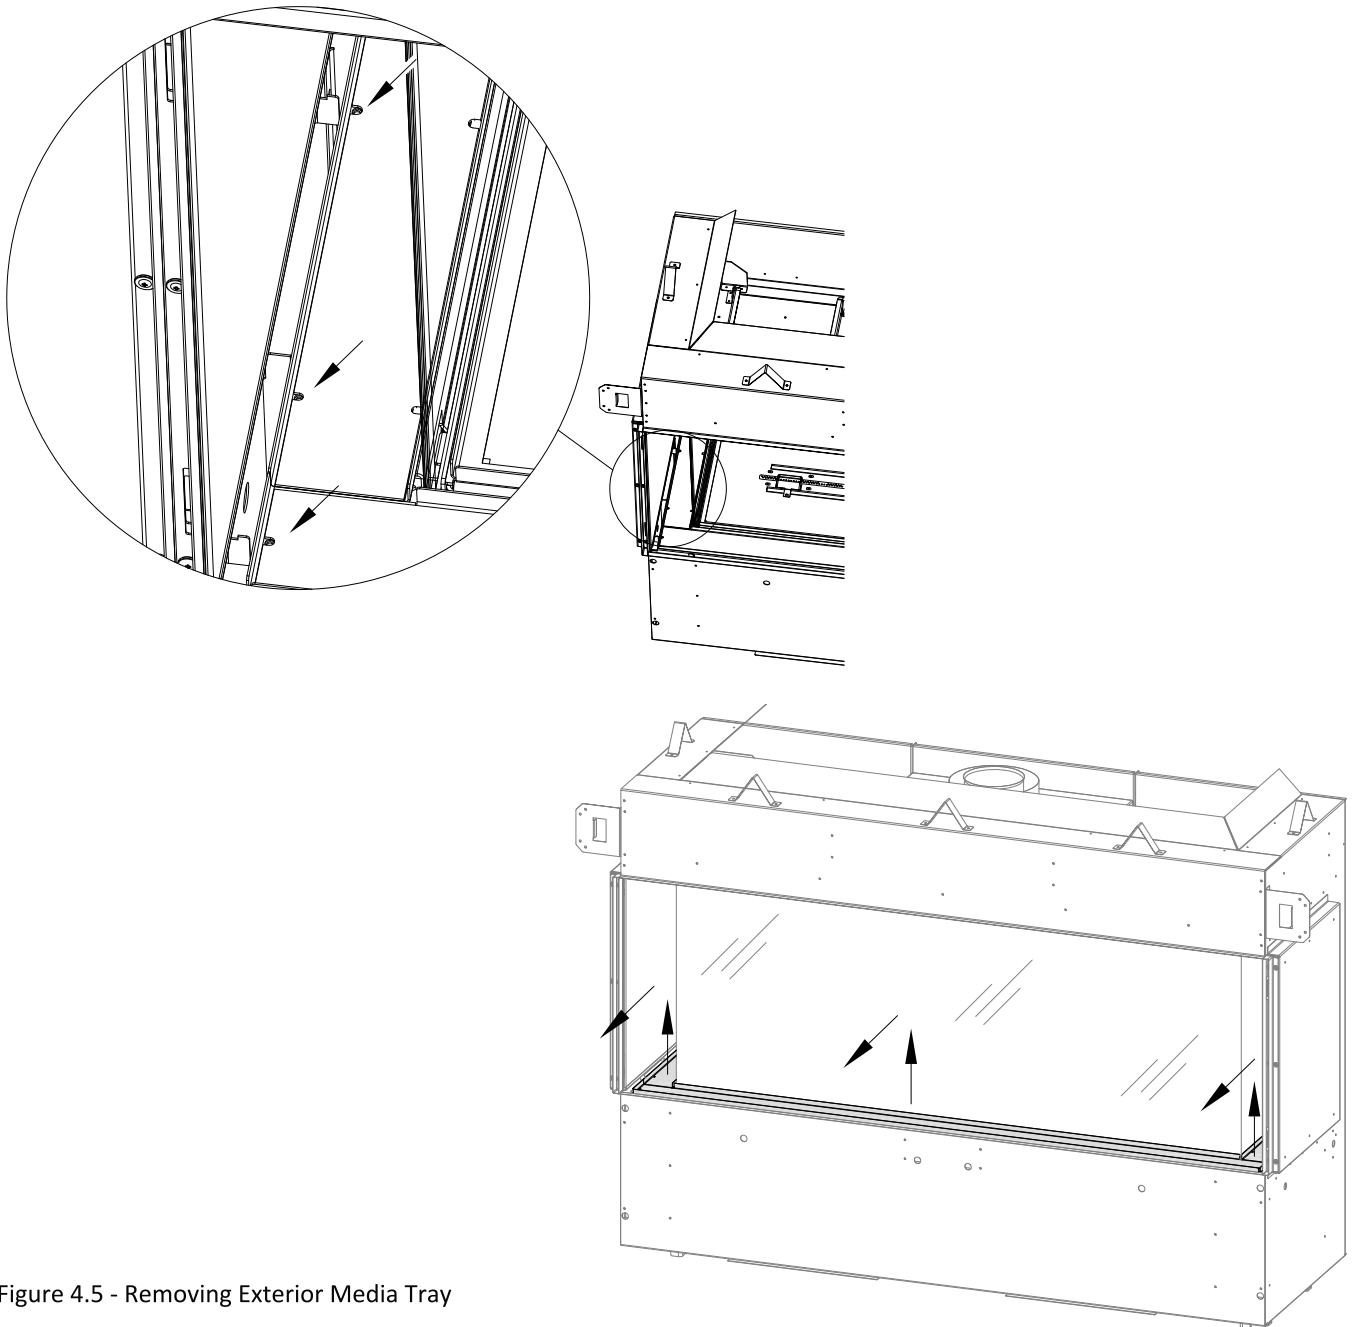

Figure 4.5 - Removing Exterior Media Tray
1. After the safety glass is removed locate the (3) sheet metal screws that secure each side media tray and the front media tray. See Figure 4.5.
2. After removing the sheet metal screws you can lift up and remove the media trays. See Figure 4.5. Install in reverse order.
1. Remove the exterior media tray by lifting it up and out of the slot it is installed. See Figure 4.5.